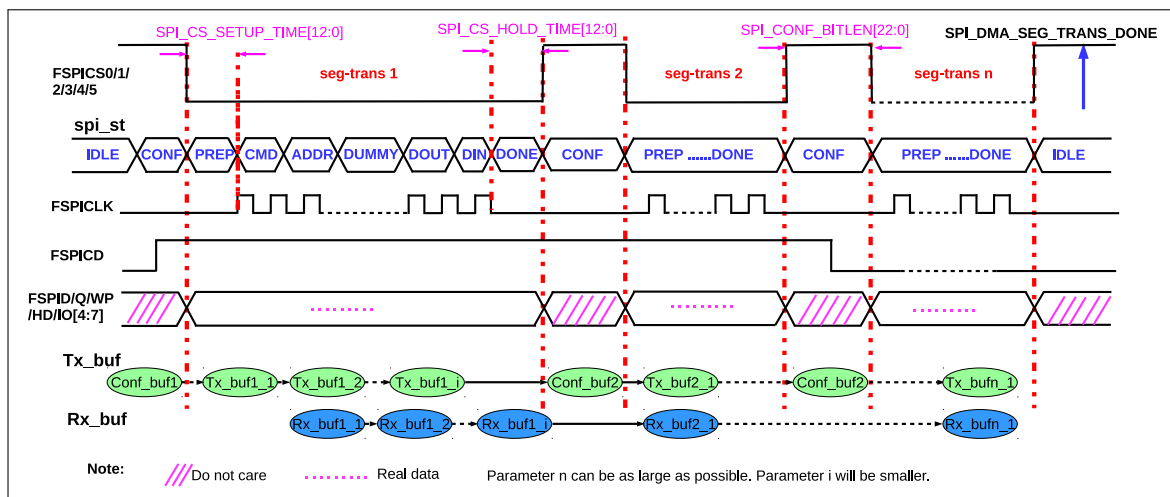
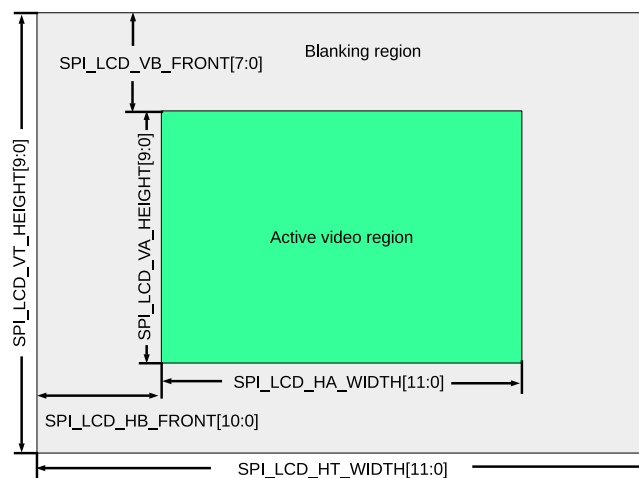
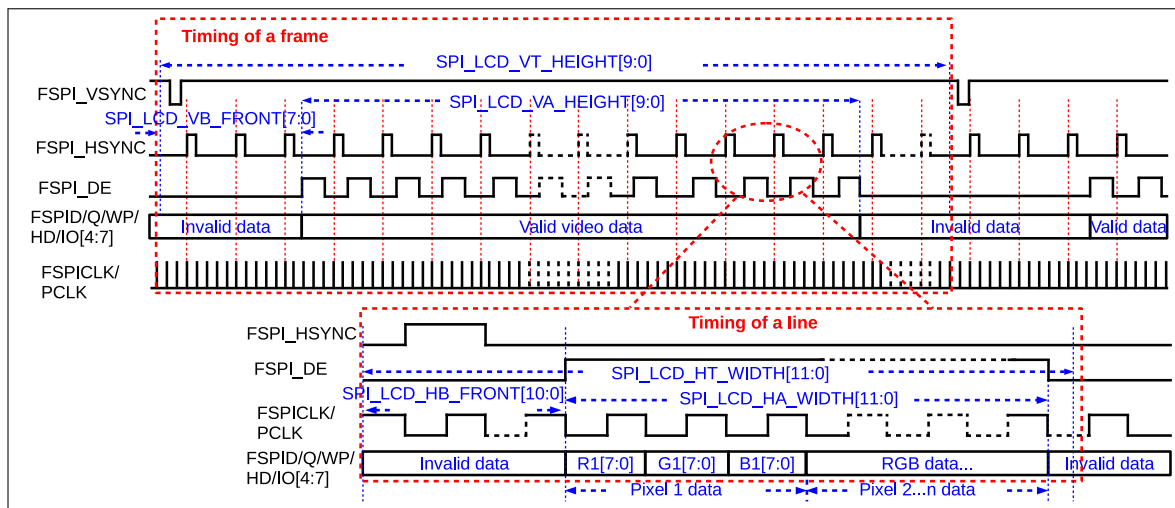

Figure 24-9. Segmented-Configure-Transfer in DMA Controlled Master Mode
Figure 24-10. Video Frame Structure in Parallel RGB 8-bit LCD Mode
Figure 24-11. Timing Sequence in Parallel RGB 8-bit LCD Mode
An SPI transfer, controlled by the registers of GP-SPI2, needs to be configured and triggered by the CPU. To reduce CPU cost and to increase the efficiency of GP-SPI2, DMA segmented-configure-transfer function is provided in DMA-controlled master mode. (Note that CPU-controlled master mode does not support segmented-configure-transfer function.) Segmented-configure-transfer enables GP-SPI2 to do as many times of transfer as configured, with only one triggering by CPU. Figure 24-9 shows how the segmented-configure-transfer function works in DMA-controlled master mode.
As shown in Figure 24-9, GP-SPI2 registers can be reconfigured by GP-SPI2 hardware according to the content in a `Conf_bufi` during CONF state, before one single segmented-configure-transfer, `SCTi`, begins.
For example, as shown in Figure 24-9, `SCTi` can be configured to DMA-controlled full-duplex communication; `SCTj` can be configured to DMA-controlled half-duplex MISO mode; and `SCTk` can be configured to DMA-controlled half-duplex MOSI mode. *i*, *j*, and *k* are integer variables, which can be any SCT number.
Figure 24-10 shows the video frame structure of a parallel 8-bit RGB mode LCD.
It can be seen from Figure 24-9, Figure 24-10, and Figure 24-11 that a good way for GP-SPI2 to output parallel 8-bit RGB frame data is as follows:
- Data is output in each frame line in a segmented-configure-transfer. One valid video line is transferred in each single transfer (i.e. SCT_i in Figure 24-9) of segmented-configure-transfer. There are $SPI_LCD_VA_HEIGHT[9:0]$ active video region lines in a frame, so that a frame data is sent in $SPI_LCD_VA_HEIGHT[9:0]$ times of SCT_i .
GP-SPI2 can output the frame data automatically as shown in Figure 24-10 and Figure 24-11, which significantly lowers the CPU time required to control the SPI transfer. The configuration flow is as follows:
2. Configure frame control registers, as shown in Figure 24-10 and Figure 24-11, in accordance with the application. For example, in the application, if n active video lines are needed, then set $SPI_LCD_VA_HEIGHT[9:0]$ to n .